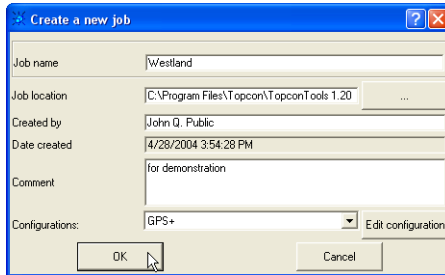

Figure 2-3. Create A New Job
- Enter the following information (Figure 2-3 on page 2-2):